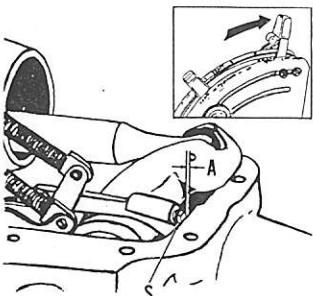

Fig. 279—Turn stop screw (S) until clearance (A) measures 0.160-0.180. Draft control lever must be in "Up" position as shown in inset.
Invert the lift cover in a fixture or on a bench, blocking up the cover so that rockshaft can be moved to the normal raised "Transport" position. Move draft control lever to full "Up" position and, using Massey-Ferguson special gage MFN-124 or an 11/64-inch drill bit as a gage, adjust the clearance (A—Fig. 279) to 0.160-0.180 by turning stop screw (S) as required.